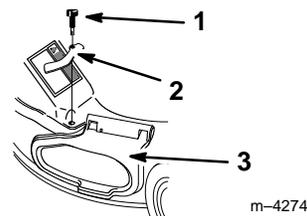

Figure 35
- Secure the front, right corner of the discharge tunnel and the side opening cover with the side cover clamp removed previously and the long knob supplied with the grass catcher (Fig. 35)